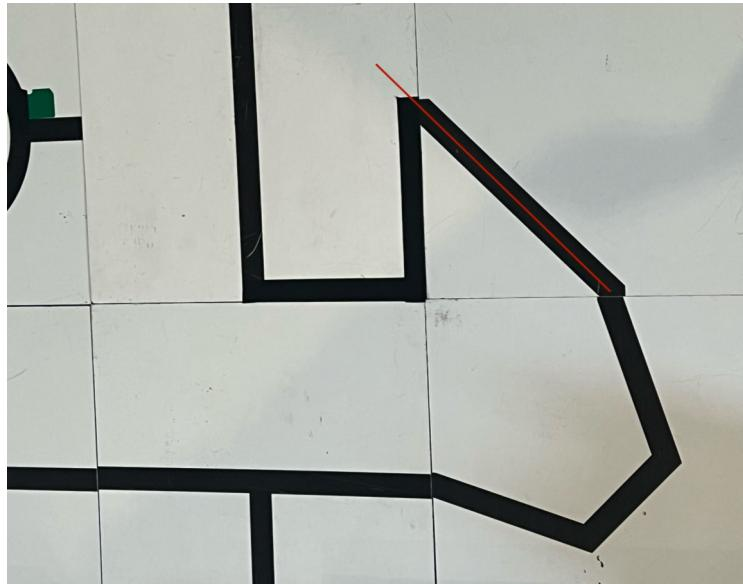

Figure 62: Tile that requires a sharp turn
- Added code to detect sharp turns like the one seen in Fig. 62 (see more detailed description below)
<p>On very sharp curves, as shown in Fig. 62, the robot often loses the line and simply drives straight ahead (along the red line)</p> <p>In some edge cases, when the robot approaches a T intersection at a very sharp angle, it will ignore any green markers and go straight. This problem occurs only at very sharp angles because the point on the black line that is furthest to the side of the green marker in the cropped camera image is still rather in the center of the picture causing the robot to go straight.</p>	<p>Added detection for sharp turns like this one by looking for a contour of the black line that touches the bottom edge of the camera frame at two different positions (we look for a gap between each black pixel in the bottom-most column) that does not touch the top edge of the frame. If these indications are fulfilled, we turn for a certain time on the spot to the side from which the new second line has appeared at the bottom edge</p> <p>As the line on the respective side of the green marker is only visible later, when the green marker is no longer visible, it is sufficient to memorize the green marker for a certain time (in our case approx. 0.2 seconds), which solves this issue</p>
Even if it is unlikely that a line will be drawn as in Fig. 62 at the qualifying tournament in Hanover, it definitely makes sense to add a solution for such sharp bends for the following events. Due to our pre-baccalaureate exams (Vorabitur) in the next few weeks, we won't be able to work on the robot much, so for Hanover we are now prioritizing only picking up and dropping off victims (we probably won't be able to implement a method to find the exit in time) as well as driving on ramps, which we can only test well at school.